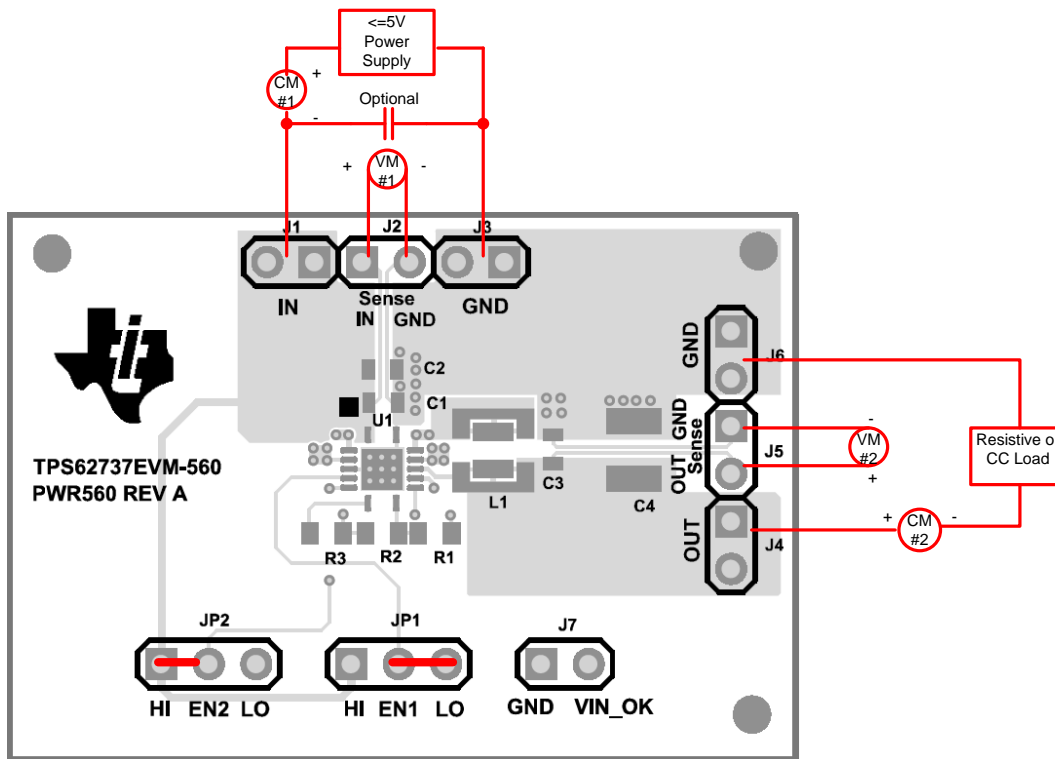

Figure 2. EVM Test Setup for Measuring Efficiency
Table 1 and Figure 2 show the test setup for measuring efficiency.
1. Ensure that the EVM setup is according to Table 1 and Figure 2, and preset the power supply to a voltage less than 5.5 V at a current limit of approximately 400 mA.